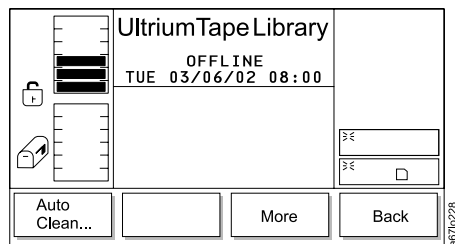

Figure 166. More Dialog
4. Press the button below the **More** softkey. The More Dialog displays (see Figure 166).
7. Press the button below the **OK** softkey. The library enables or disables automatic cleaning and redisplay the More Dialog (see Figure 166 on page 145).